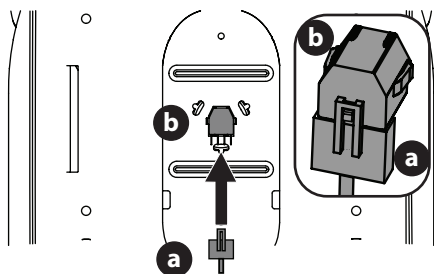

Fig. 6
3. If necessary, securely connect the seat switch wiring harness (a) to the seat switch (b) (Fig. 6). Secure excess wire away from pinch points before continuing.